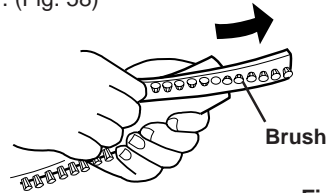

Fig.58
- 6** Now the brushes can be removed easily. (Fig. 58)